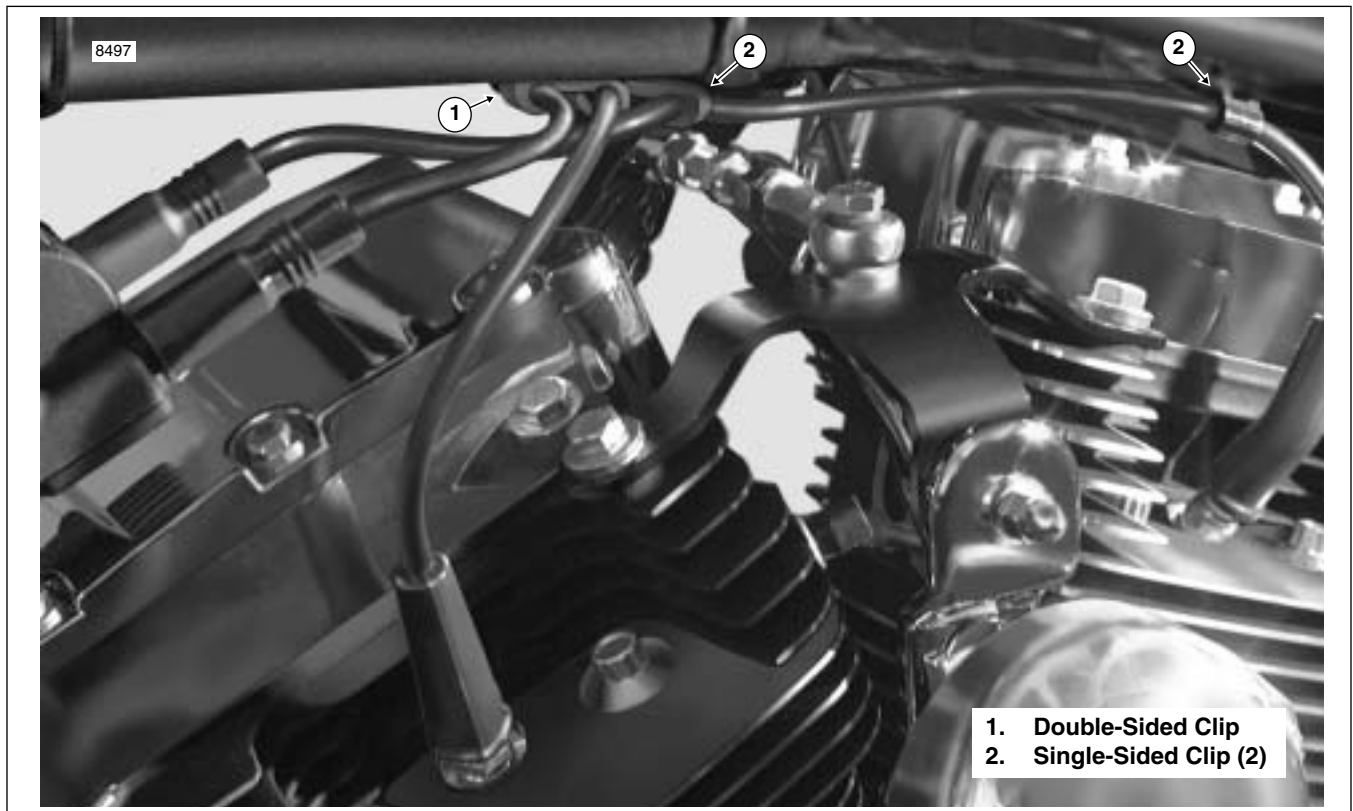

Figure 8-11. Spark Plug Cable Clips (Left Side View)
4. Install spark plug cable to front cylinder onto left side coil tower. Verify that spark plug cable is captured in double-sided cable clip at bottom left side of frame backbone. Install **new** cable clip on T-stud if damaged or missing. See Figure 8-11.
5. Install spark plug cable to rear cylinder onto right side coil tower. Verify that spark plug cable is captured in two single-sided cable clips at bottom left side of frame backbone. Install **new** cable clips on T-studs if damaged or missing. See Figure 8-11.
2. Install spark plug cable to front cylinder onto left side coil tower. Verify that spark plug cable is captured in double-sided cable clip at bottom left side of frame backbone. Install **new** cable clip on T-stud if damaged or missing. See Figure 8-11.
3. Install spark plug cable to rear cylinder onto right side coil tower. Verify that spark plug cable is captured in two single-sided cable clips at bottom left side of frame backbone. Install **new** cable clips on T-studs if damaged or missing. See Figure 8-11.